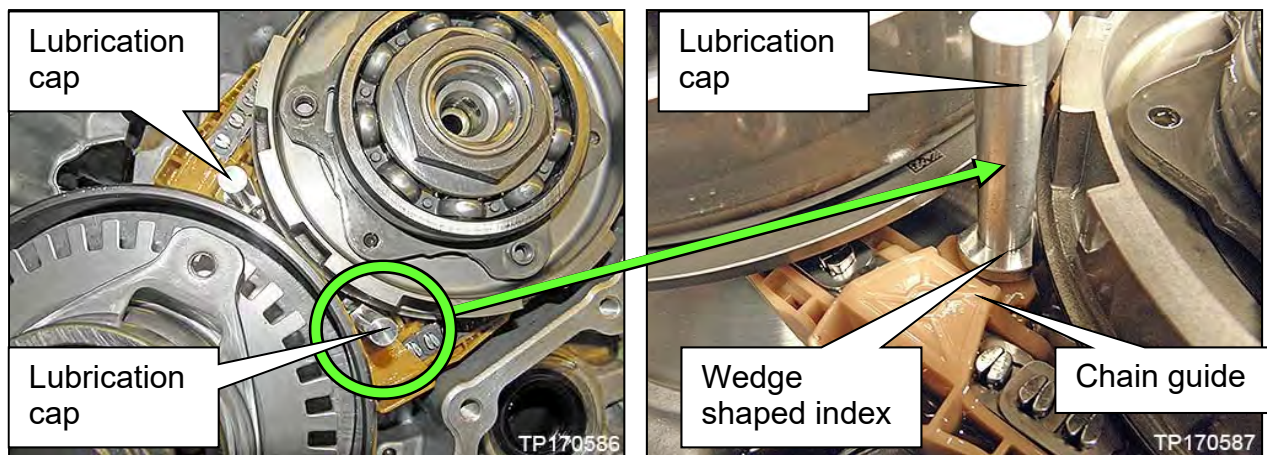
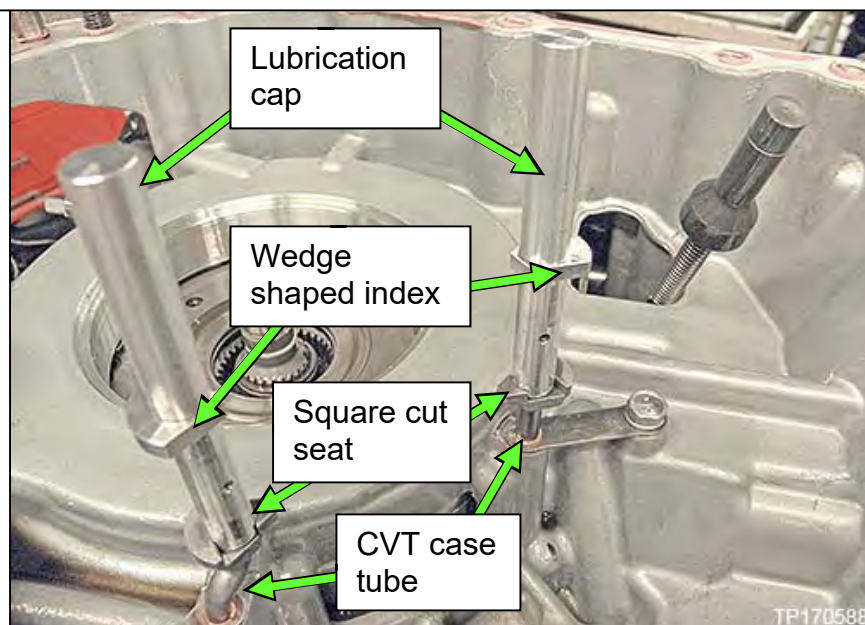

Figure 105
Figure 106
78. Install two (2) new lubrication caps (see Parts Information) shown in Figure 105 onto the tubes of the CVT case shown in Figure 106 as follows:
Figure 106 shows the pulleys and chain removed to illustrate how the lubrication caps attach to the CVT case tubes and is for reference only.